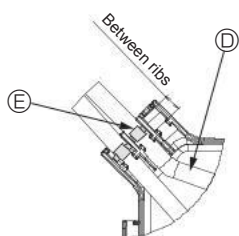

Fig. 7-6
**Fit the band securing the junction wires between the ribs on the connector box as shown in the diagram. (Fig. 7-6)**